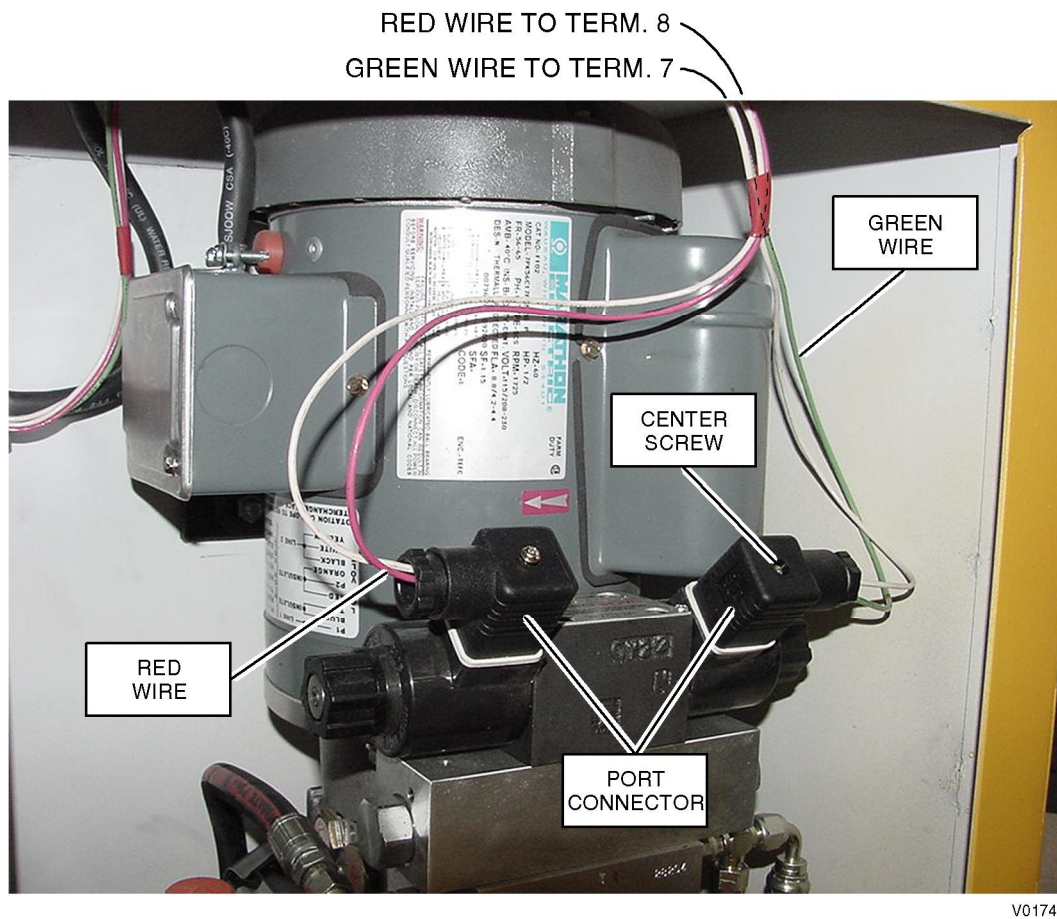

Figure 3-9. Left-Hand Port Connector Configuration
The proper configuration of hydraulic port connectors and travel limit sensors for the left-hand HCU installation is shown in Figure 3-9 and Figure 3-11. The proper configuration of hydraulic port connectors and travel limit sensors for the right-hand HCU installation is shown in Figure 3-10 and Figure 3-12.
3. Carefully disconnect the port connector from the directional control valve solenoid and reconnect to the opposite solenoid. See Figure 3-9 or Figure 3-10 for proper wiring configuration.